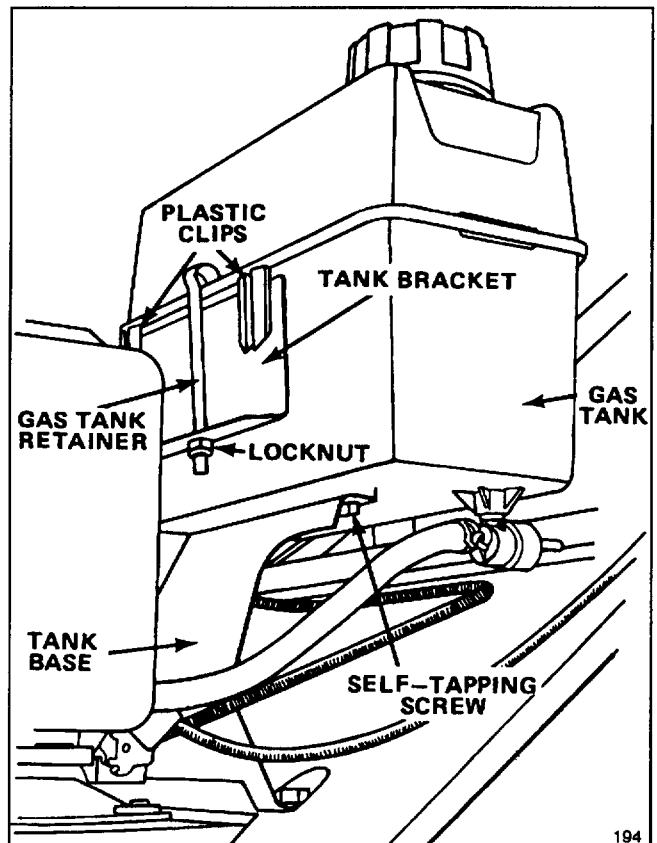

Figure 2
1. Hook the plastic clips on the rear of the gas tank onto the gas tank bracket (Fig. 2).
2. Secure gas tank to tank base with (2) self-tapping screws (Fig. 2). Do not overtighten screws.
- Hook gas tank retainer onto gas tank and slide end of retainer into hole in tank bracket. Secure retainer to tank bracket with locknut (Fig. 2). Do not overtighten locknut.